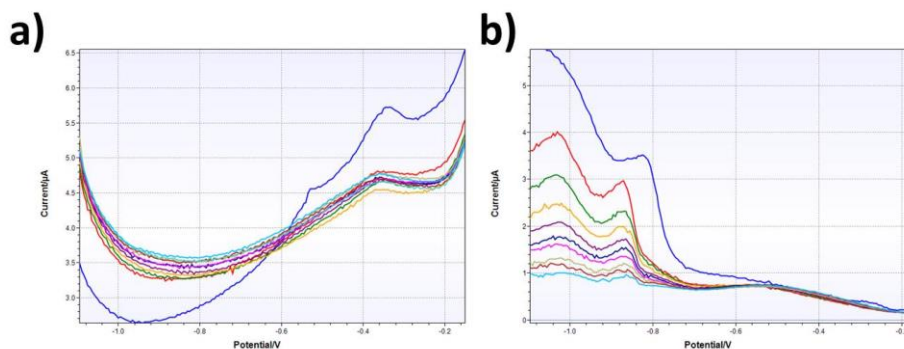

Figure 4.2: typical preparation scans for a IS-HM electrode, curves with shapes of a) and b) have both been observed and lead to functioning mercury films
7. Typical scans from the conditioning stage are shown in Figure 4.2. Please, notice that the peaks are decreasing with each scan until they almost vanish completely. When finished rinse the cell and electrode with some 20 mM HCl solution and clean water. The electrode is now ready to use. The polymer containing a mercury salt covering the electrode at the beginning of the preparation is now turned into a mercury film. This is also the reason why the potential should be kept below -0.1 V, otherwise the mercury film might be destroyed.